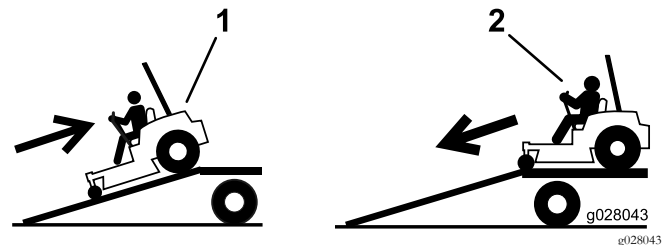

Figure 21
- Securely fasten the machine to the trailer or truck with straps, chains, cable, or ropes. Only use the four designated tie-down locations on the mower—two on the left side and two on the right (see Figure 21). Use these locations even when transporting the mower with an attached accessory. Using non-designated locations may cause damage to the mower and/or attachment.
Use extreme caution when loading or unloading machines onto a trailer or a truck. Use a full-width ramp that is wider than the machine for this procedure. Back up ramps and drive forward down ramps (Figure 21).